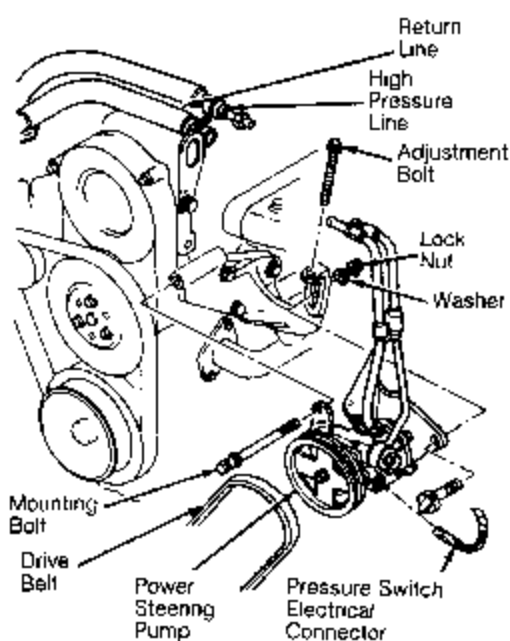
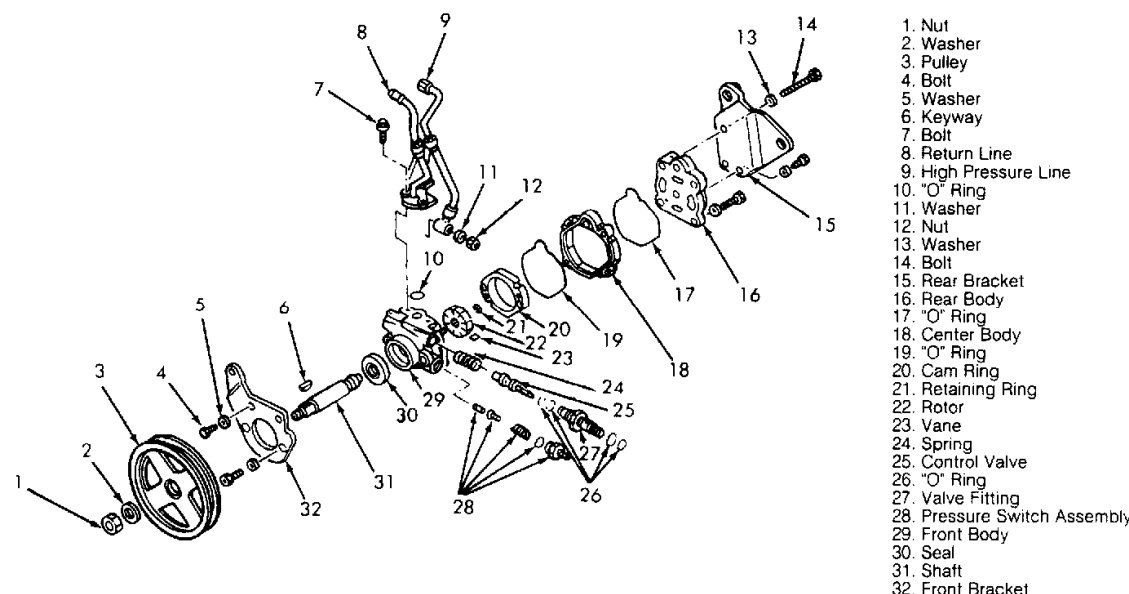

Fig. 7: Power Steering Pump Mounting & Pressure Hose (Festiva)
Fig. 8: Exploded View of Power Steering Pump (Festiva)
1. With pump removed from vehicle, secure pump in a soft-jawed vice. Remove nut and washer that secure high pressure line. Remove cap screw and support bracket. Remove high pressure line. Remove return line attaching bolts. See Fig. 7 and Fig. 8.